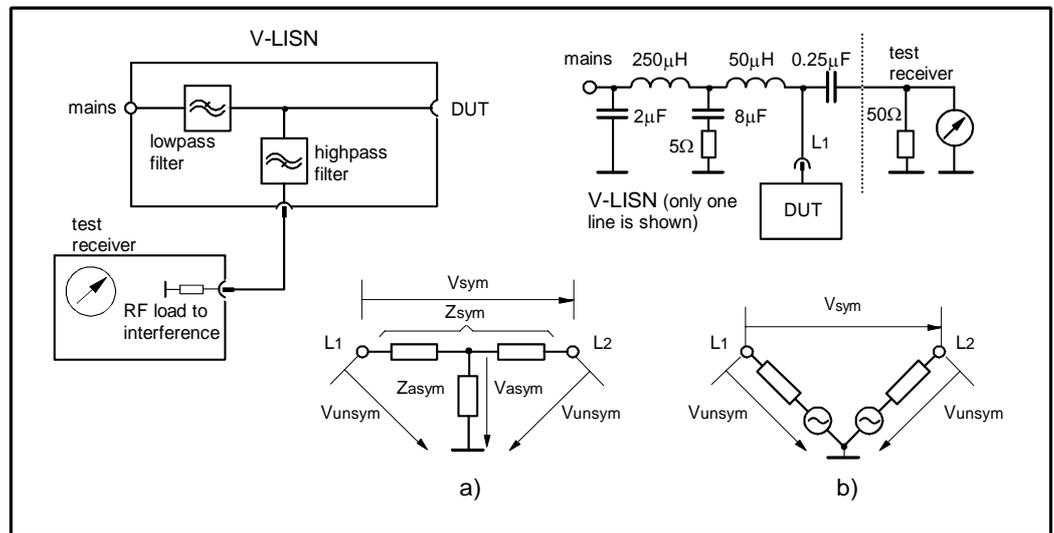

Fig. 7-1 AMN Principle: a) Δ -type or T-type LISN ; b) V-type LISN
7.1.2 Coupling Networks Coupling Networks are electrical interfaces which allow to transfer the quantity to be measured from the lines to the test receiver. Some types of Coupling Networks are: AMN (Artificial Mains Network), named also "LISN" (Line Impedance Stabilization Network), Current Probe and Voltage Probe. Fig. 7-1 shows the AMN principle.